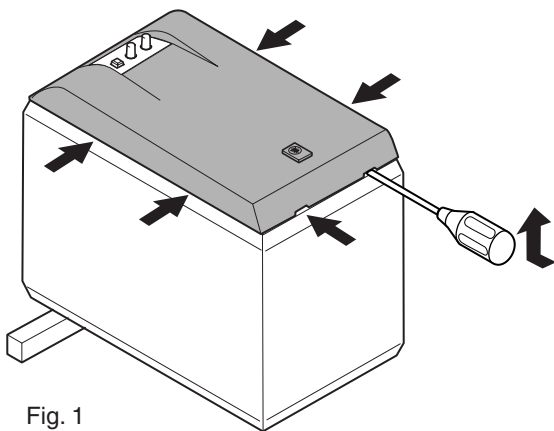

Fig. 1
- b. Use the screwdriver inserted in the gap between the front grille and the cabinet (bottom side first), push up the front grille. (Fig. 1)
- c. Remove the front grille by lifting it up. (Fig. 1)